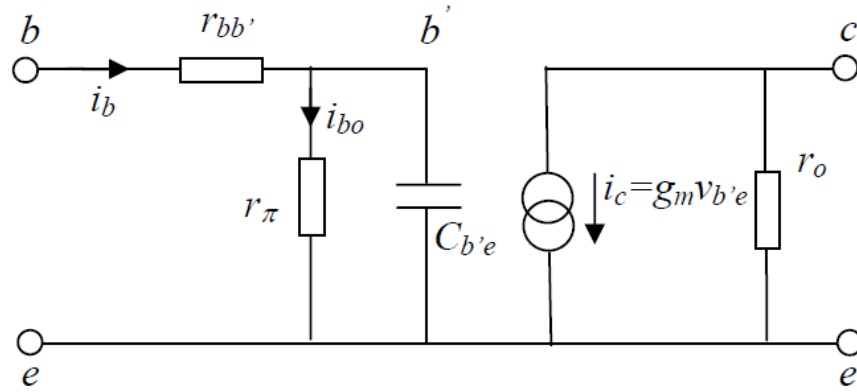

Figure 1: Small signal circuit diagram of a bipolar transistor
- 4 a. Figure 1 shows the small signal equivalent circuit for a bipolar transistor
- b. Which of the components in figure 1 is related to the 'Early' effect? Sketch typical output characteristics which show this effect and indicate on your diagram the Early voltage.
- c. By consideration on the input and output currents and using figure 1, derive an expression for the small-signal circuit current gain, h_{fe} , as a function of the frequency. Simplify this to give expressions for the h_{fe} at (i) low frequency ($\omega \rightarrow 0$) and (ii) high frequency ($\omega \rightarrow \infty$).